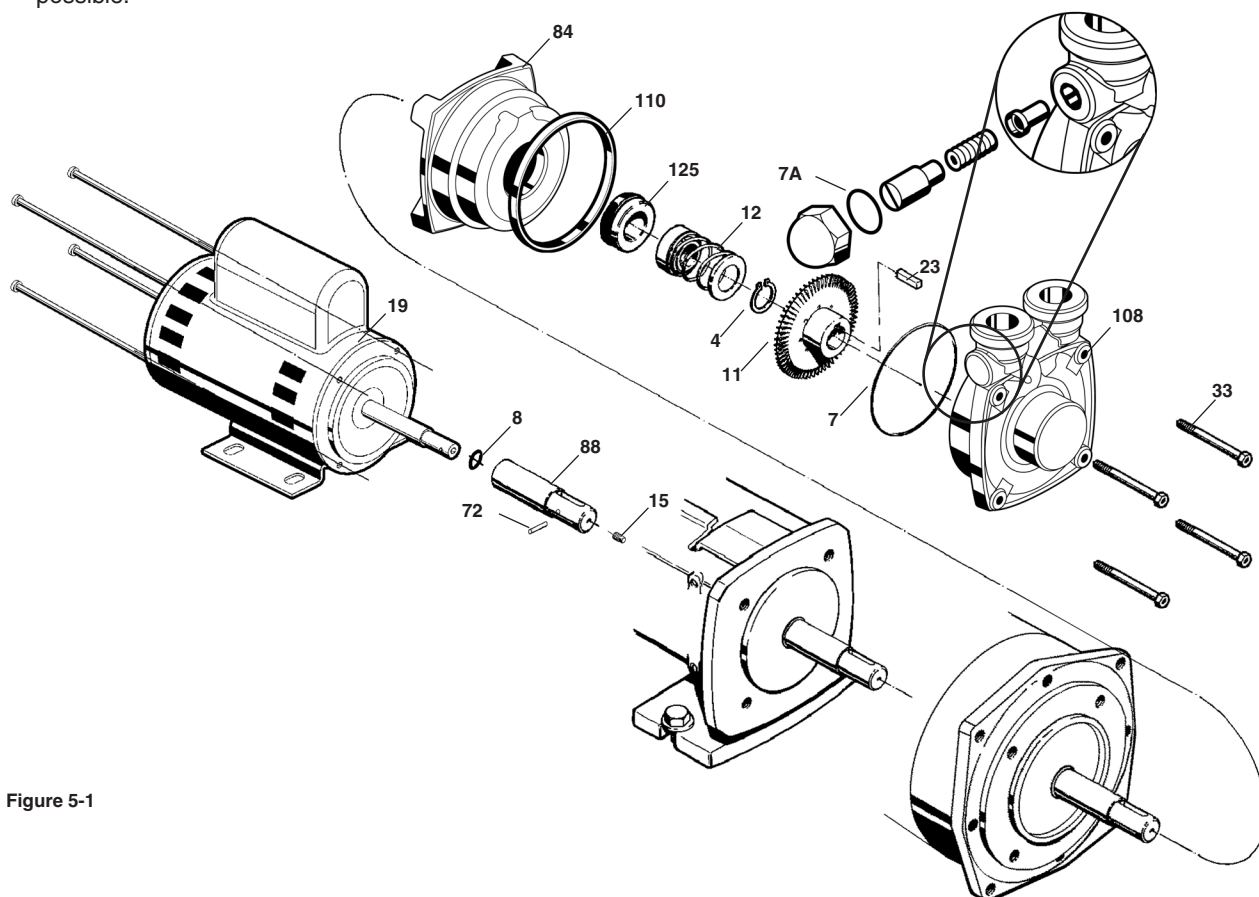

Figure 5-1
To disassemble the pump: Refer to Figure 5-1 for reference to the numbered parts in the procedures below. Please note that the P31 is an adjustable performance pump. It has been preset at the factory for your particular performance needs. If you are disassembling for inspection or seal replacement only, you may wish to mark or otherwise lock the adjusting nut (#110) into place (before disassembly) especially
6. Install the impeller (#11). The impeller is a slip fit and should slide on firmly but easily until it stops against the impeller wearing surface. Force should not be required or used to install the impeller in the correct position. The impeller hub should be facing out away from the motor bracket. Refer to Figure 5-1.